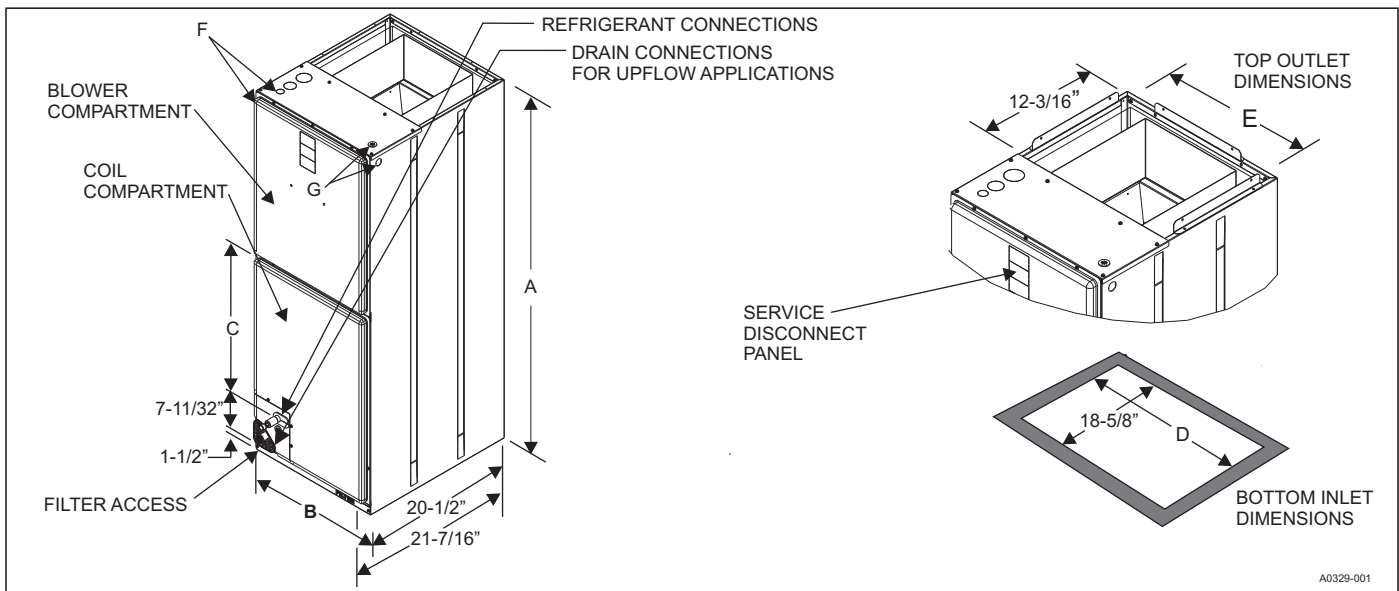

FIGURE 3: Dimensions & Duct Connection Dimensions
6. The unit rating plate displays the air handler model number. The unit dimensions for the supply air plenum are provided in Figure 3 and Table 1 of this Instruction Manual. The plenum must be installed according to the instructions.
The size of the unit should be based on an acceptable heat loss or gain calculation for the structure. The ACCA – Manual J or other approved methods may be used. Reference Figure 3 and Table 1.